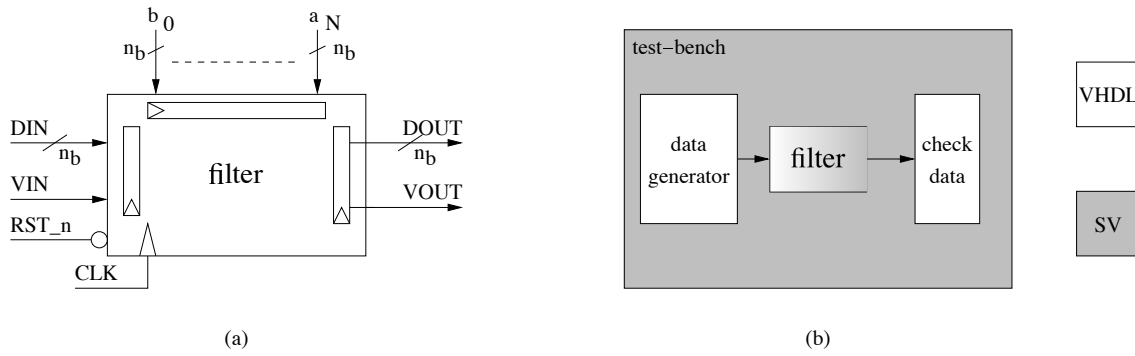

Figure 1
The filter interface is illustrated in Fig. 1(a): the input samples (DIN) arrive one per clock cycle, accompanied by a validation signal (VIN). When $VIN = '1'$, a new sample is valid and can be loaded into the architecture. The output $DOUT$ contains the filtering result (y), and $VOUT$ is the corresponding validation signal. $VOUT = '1'$ indicates that $DOUT$ is valid.
Finally, prepare a hierarchical testbench where the data generator (*data_maker.vhd*), the check data (*data_sink.vhd*) and the clock generator (*clk_gen.vhd*) are implemented in VHDL, the filter is described in VHDL or SystemVerilog and the top-level entity is described in Verilog (see Fig. 1(b)). An example of the required files for creating a mixed VHDL/SystemVerilog testbench is available from the *Portale della didattica*.
2. Develop the HDL model and verify it against the fixed-point C model with a proper testbench. The outputs of the HDL model must match exactly those of the C model, including cases where VIN transitions from '1' to '0' and back to '1'. Report a snapshot of this behaviour. Ensure that the interface of your architecture matches exactly the one in Fig. 1(a), as an automated tool will be used to check the design.